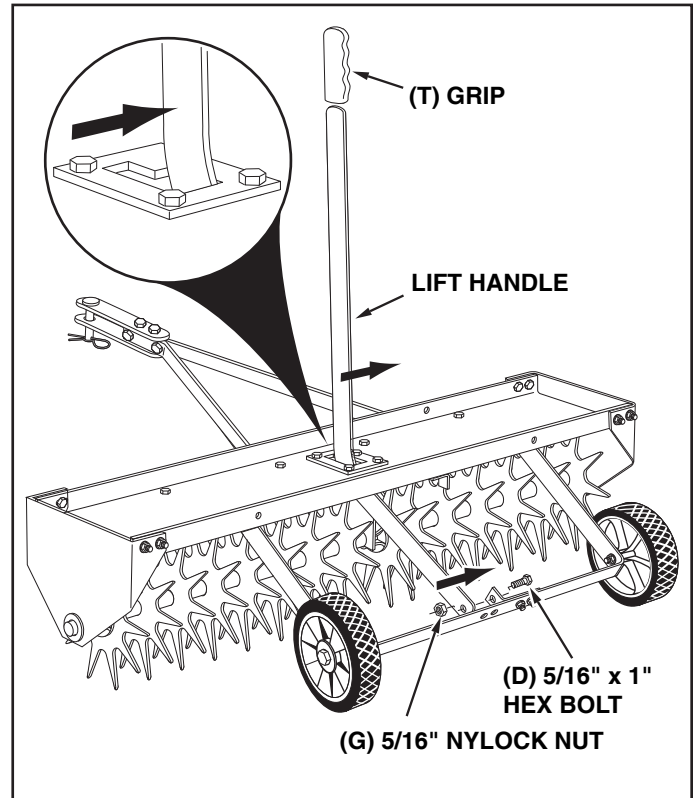

FIGURE 15 **REAR VIEW**
25. Assemble the lift handle through the tray and attach it to the hitch arm mount bracket assembled to the axle bracket. Use a 5/16" x 1" hex bolt (D) and a 5/16" nylock nut (G). **Tighten.** See figure 15.
26. Position the hitch arm mount bracket so that there is side tension on the lift handle when it is locked in the up position. **Tighten** the nuts. See figure 15.
27. Assemble the grip (Q) onto the end of the lift handle. See figure 15.